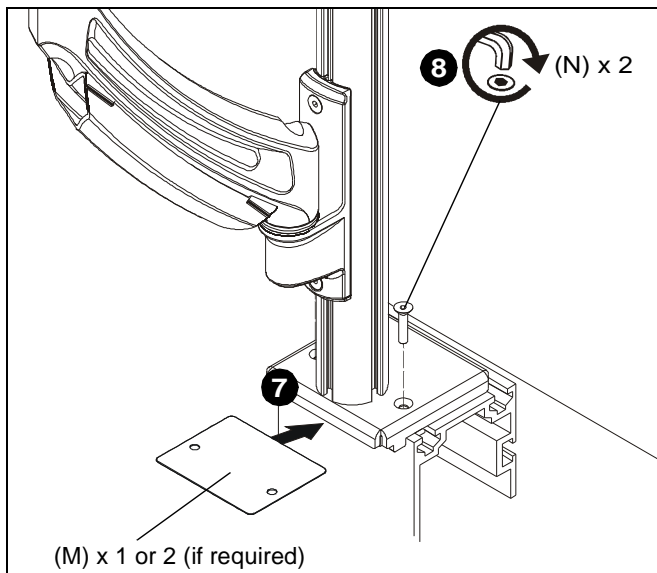

Figure 9
6. Remove two #10-32 x 7/8" flat head cap screws (N) holding mount base to channel plate (L).
7. Slide one or two shims (M) in between mount base and rail, lining up holes on shim(s) with holes on plate and rail. (See Figure 9)
8. Use two #10-32 x 7/8" flat head cap screws (N) to reinstall mount base to channel plate (L). (See Figure 9)